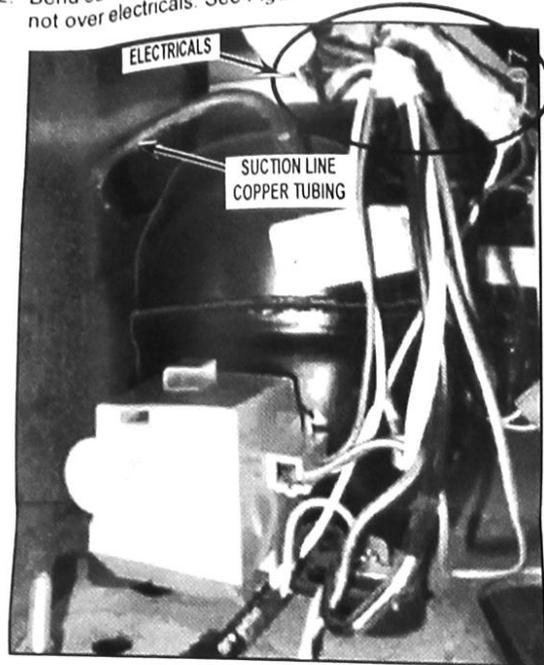

FIGURE 8
- Bend suction line copper tubing down so that lowest point is not over electricals. See Figure 8.